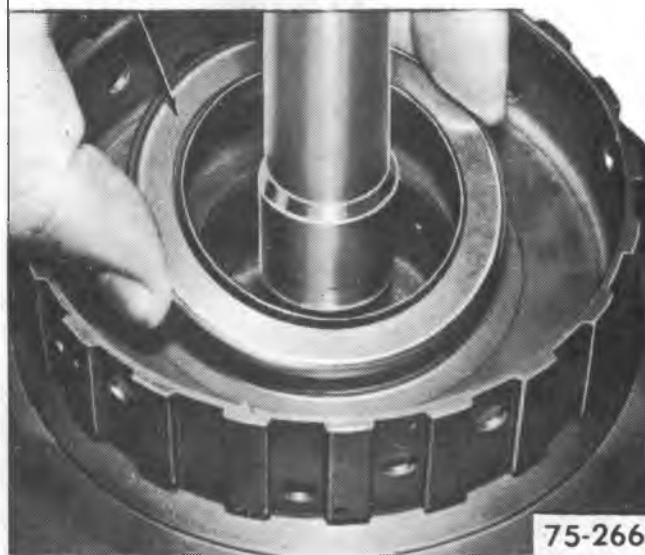

Fig. 71M--Direct Clutch Drum to Forward Clutch Housing Needle Roller Bearing
4. Remove direct clutch drum to forward clutch housing needle roller bearing (fig. 71M).